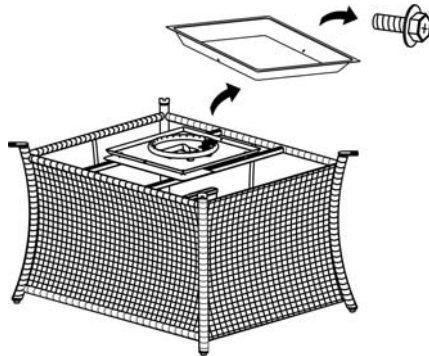

Figure 3
2. There are two factory assembled M4 screws in the firepan/burner assembly. Remove those three screws in order to remove the burner pan protective ring as shown in Figure 3.